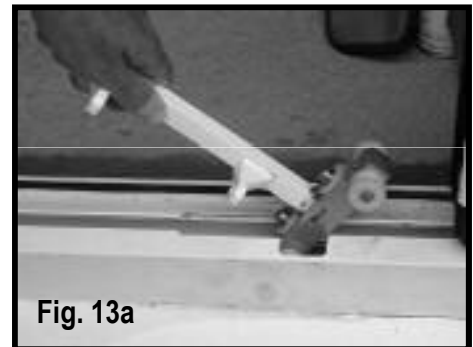

Fig. 13a
- I Remove the bolt in the bottom fork and slide the carriage assembly with the fork to the access point and remove from the track as shown in Fig. 13a.